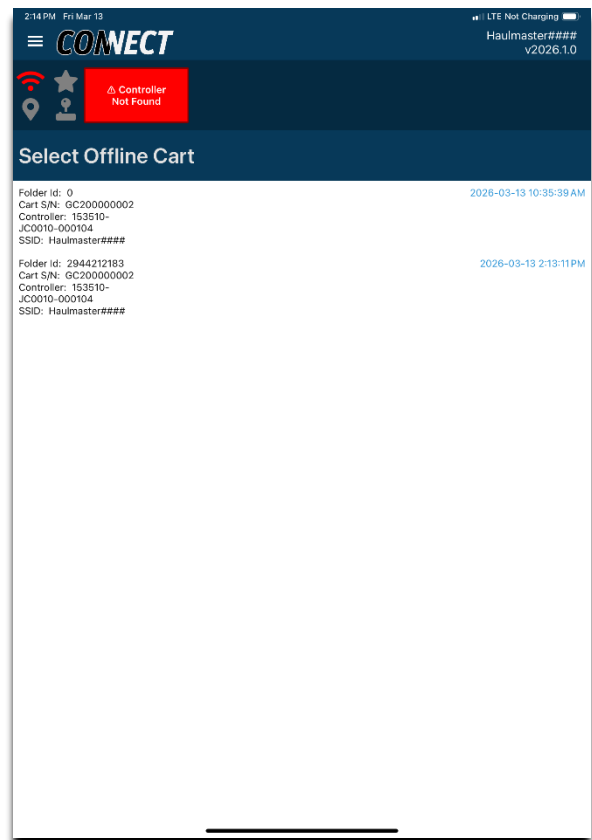

Figure 121 Choose Offline Carts
3. You will see a **list** of previously connected carts, Figure 121.